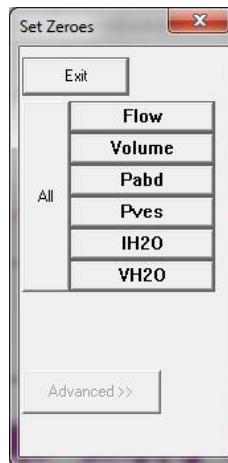

Figure 158: Set Zeros Window
- Select **SET ZEROES!** from the Menu Bar in the Goby Software window. The Set Zeroes window will launch (Figure 158).